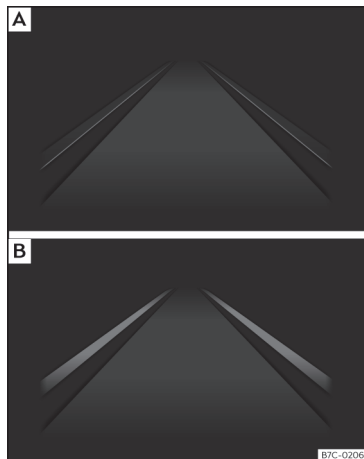

Fig. 218 On the instrument panel display: Indication on the Lane Assist system display (example 1).
- **Fig. 218 [A]:** The system is active, but not available, either because the minimum speed has not been reached or because the lane lines are not recognised.
- **Fig. 218 [B]:** The system is active and available, both lane lines are recognised. The steering angle is not being corrected at this moment.